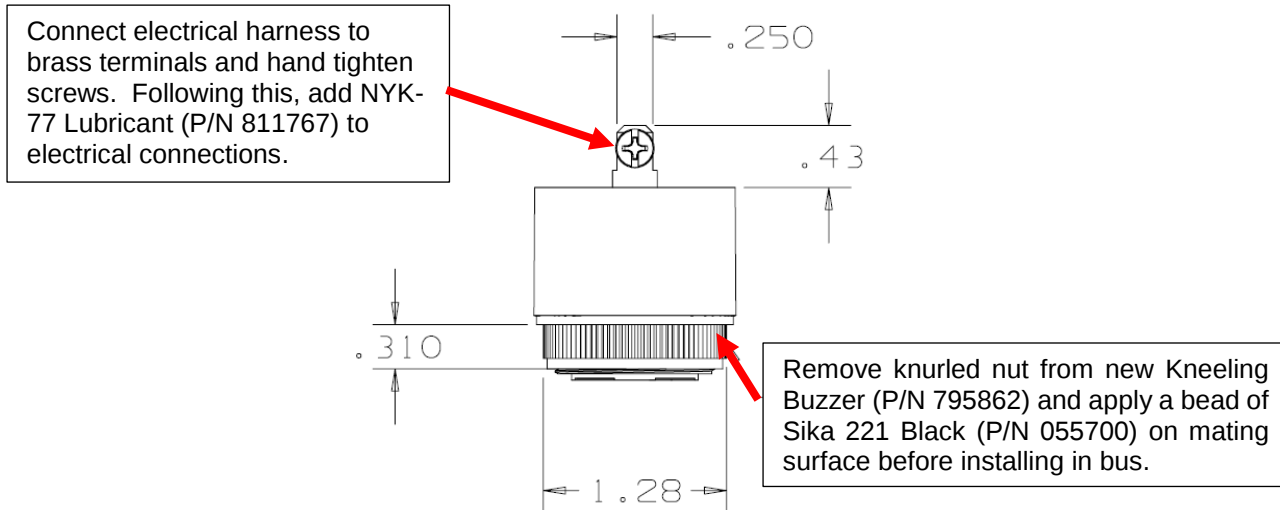

Figure 3 – New Kneeling Buzzer (P/N 795862)
8. Remove knurled nut from new Kneeling Buzzer (P/N 795862) and install threaded front in existing hole in the front mask. Refer to Figure 3.
9. Reconnect the electrical harness to the brass terminals on new Kneeling Buzzer (P/N 795862) by hand tightening screws. Following this, add NYK-77 Lubricant (P/N 811767) to the electrical connections. Refer to Figure 3.